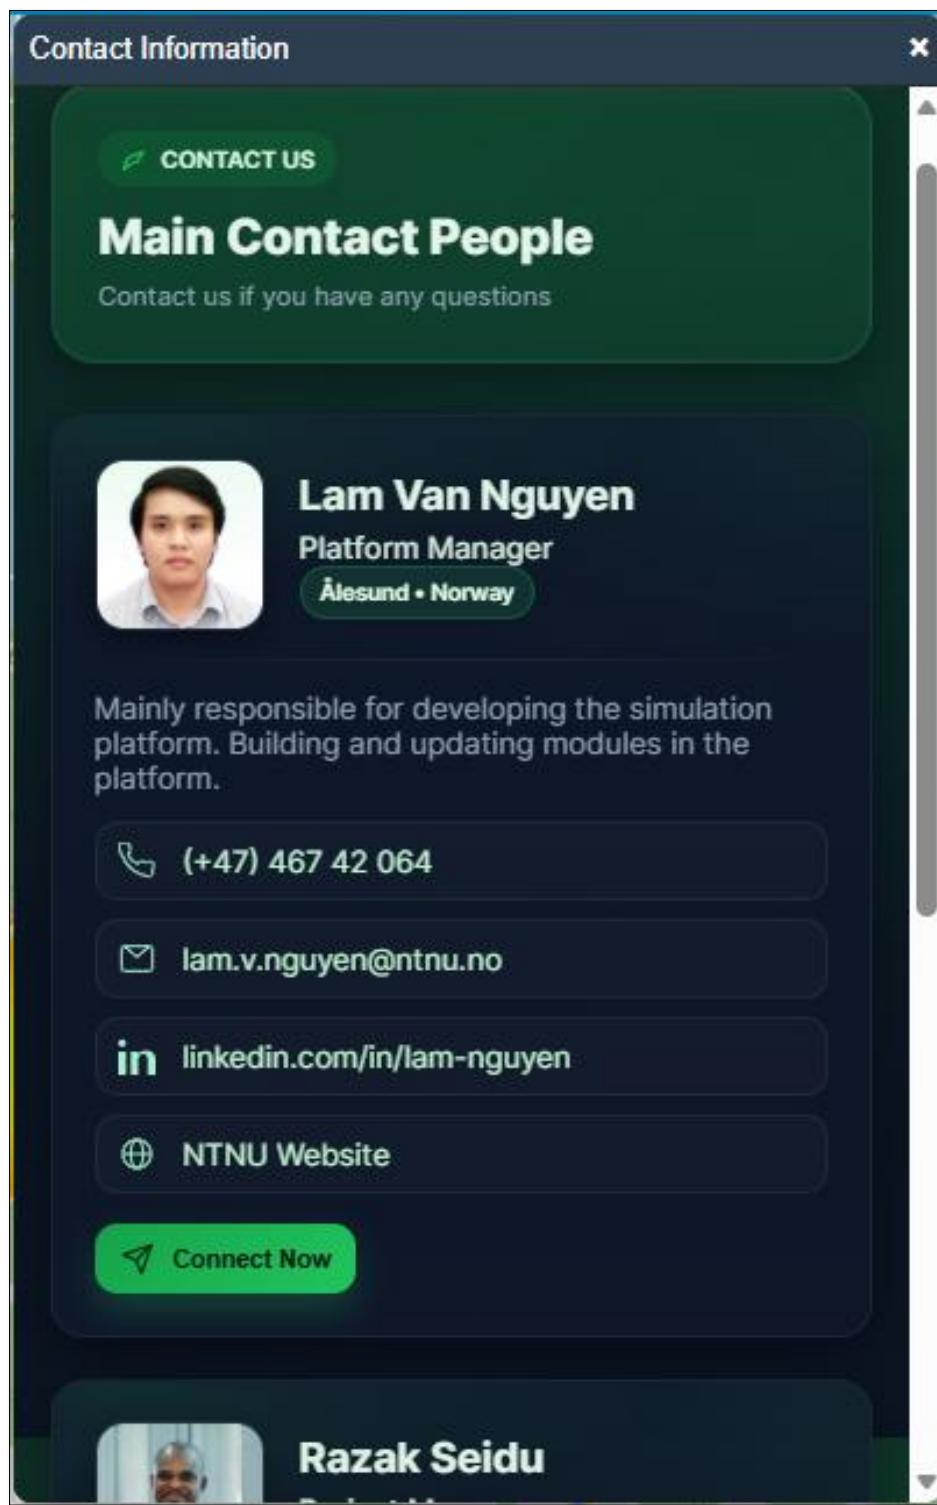

Figure 1.9. Contact information
- *Help*: this option shows more detailed information to contact our people (**Figure 1.9**).